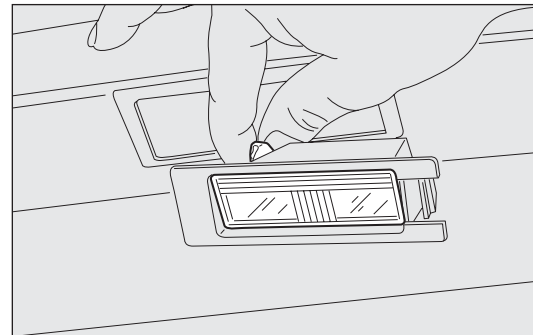

fig. 151
- change the bulb fig.151 by releasing it from the side contacts and making sure that the new bulb is correctly fastened between these contacts;